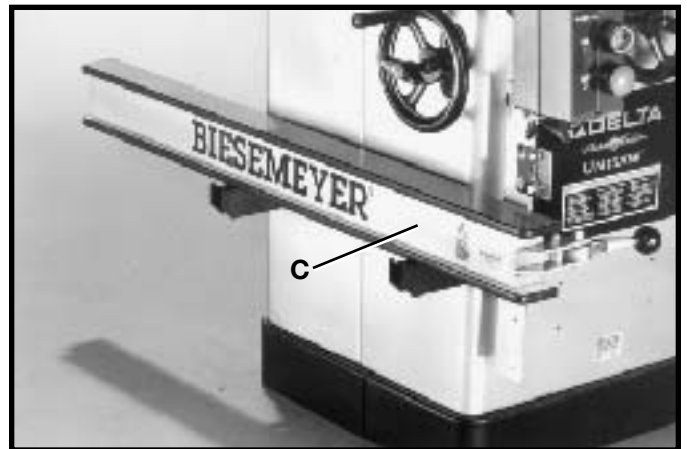

Fig. 48
2. Figure 48 illustrates the Biesemeyer® fence (C), (when not in use) positioned on the two holder brackets.